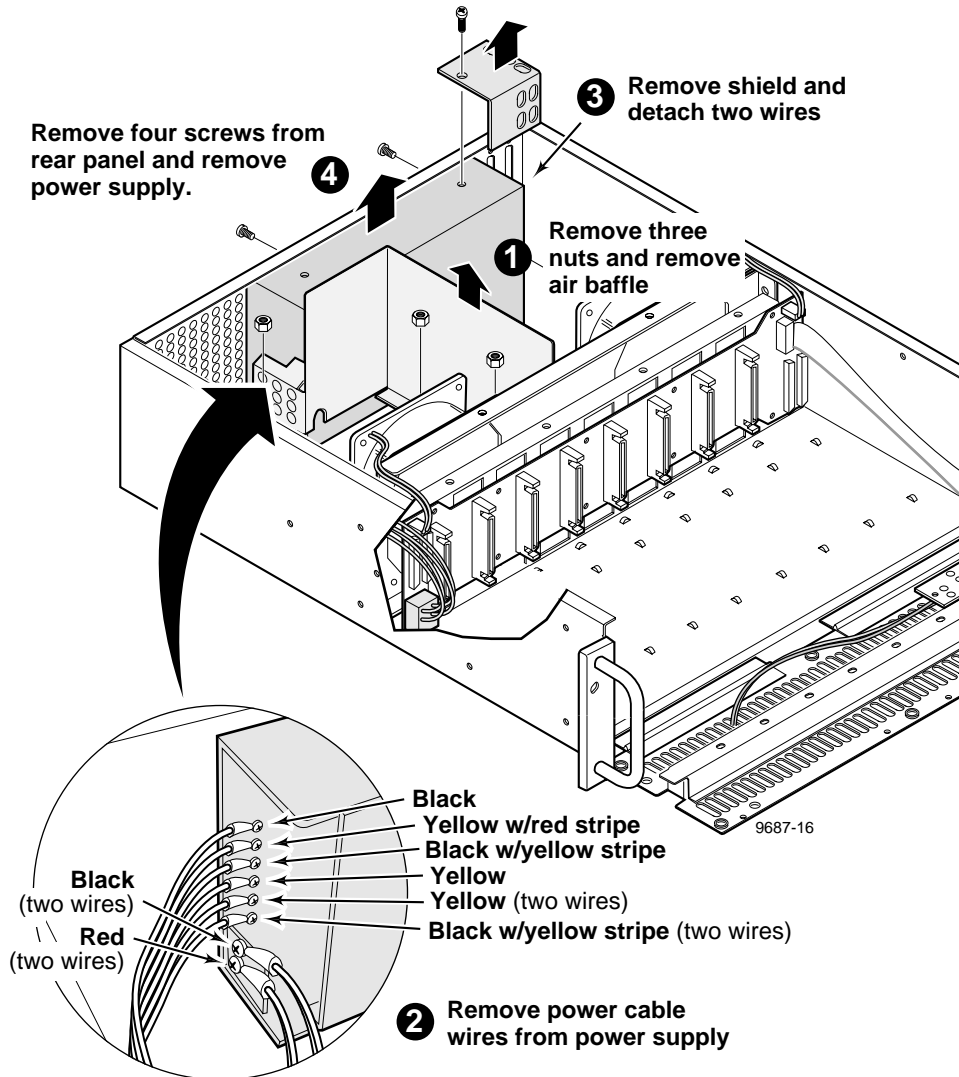

Figure 3-13. PDX218 Power Supply Removal
Figure 3-13 shows removal of the Power Supply (item 1 in Table 3-1).
4. Remove the shield from the right side of the Power Supply (Figure 3-13)
5. Remove the mounting nuts from the air baffle and lift the baffle up and out of the chassis (Figure 3-13).
7. Disconnect the SCSI Distribution board cable wires from the left side of the Power Supply (Figure 3-13).
8. Disconnect the black and white Switch cable wires from the right side of the Power Supply (Figure 3-13).
1. Connect the cable wires from the Switch to the right side of the Power Supply (Figure 3-13).
2. Connect the SCSI Distribution board cable wires to the left side of the Power Supply (Figure 3-13).
3. Position the Power Supply at the rear panel and mount with the screws previously removed (Figure 3-13).